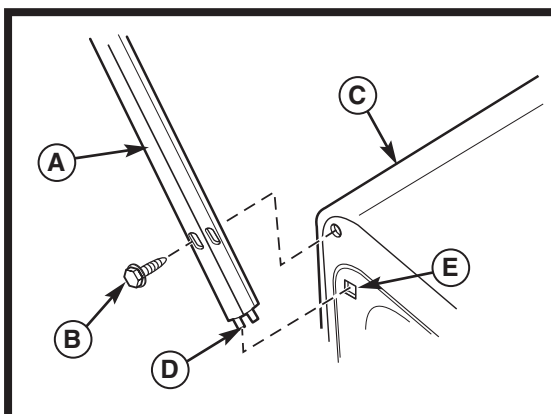

Figure 5
- Drift cutters (A, Figure 5) are mounted to snowthrower auger housing (C). With a 1/2 wrench remove the hardware (B). Install drift cutters (A) placing tab (D) into square hole (E) and the removed hardware (B).